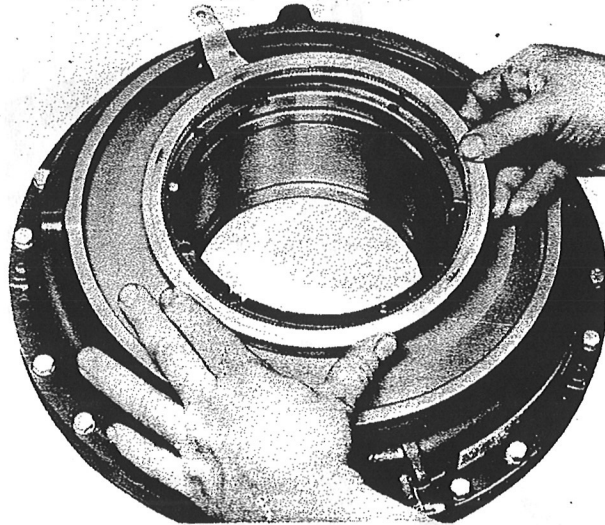

Figure 54—Removing Control Lever
(5) Remove the control lever. (See figure 54.)